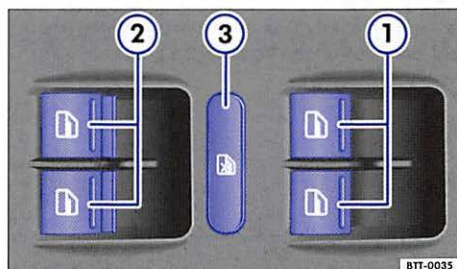

Fig. 30 In the driver door: Switches for front and rear power windows.
Key to fig. 30:
The safety switch ⇒ fig. 30 ③ deactivates the power windows in the rear doors. The yellow indicator light in the switch comes on.